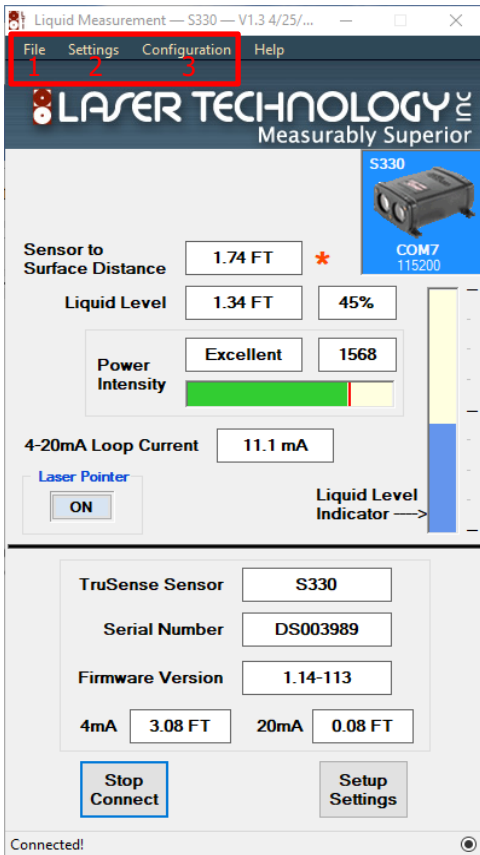

Figure 9: Main Window
Once the tool has found a sensor it will populate the bottom half of the window with sensor information and current loop boundaries, and start the sensor measuring. If connecting to a sensor at an installation site, when loop boundaries are configured, the tool will display actual distances to surface and tank liquid level. In addition, the tool will calculate what the loop current should be and the returning power intensity of the laser. Following are the descriptions of each field (See Figures 9, 10 and 11).
1. File: This will open three options. (See Figure 9)
2. Settings: This will allow the user to manually configure COM port and Baud Rate. (See Figure 9)
3. Configuration: This will open three user change sensor functions. (See Figure 9)